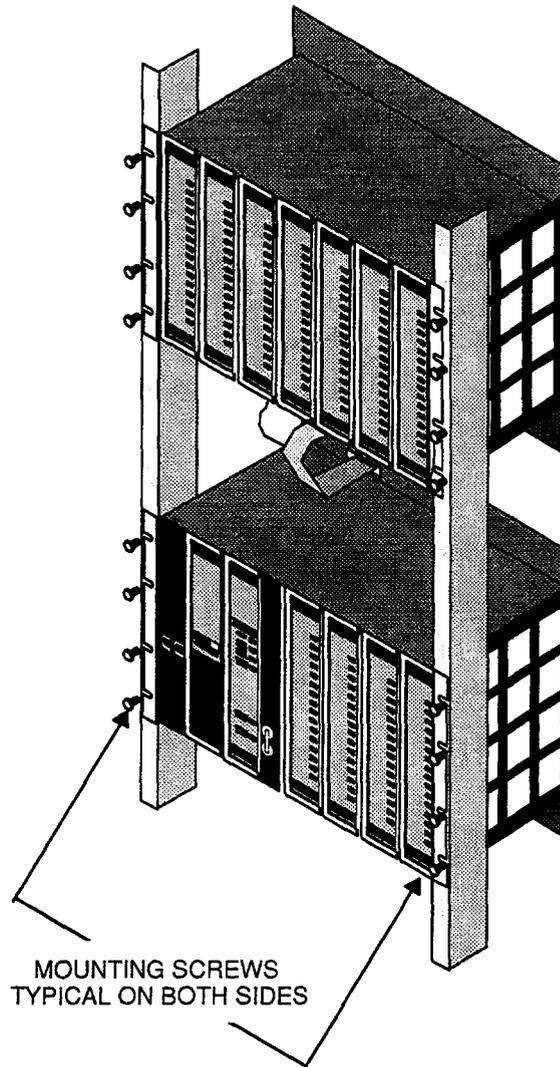

Figure 31 Rack Mounting Your Housing
- Step 4** To attach the module housing to the rack as shown in Figure 31, lift the empty module housing to its mount position in the rack and insert the mounting screws. Use #10–32 pan head screws to attach the module housing to the rack. Install cable troughs for all Remote I/O modules.